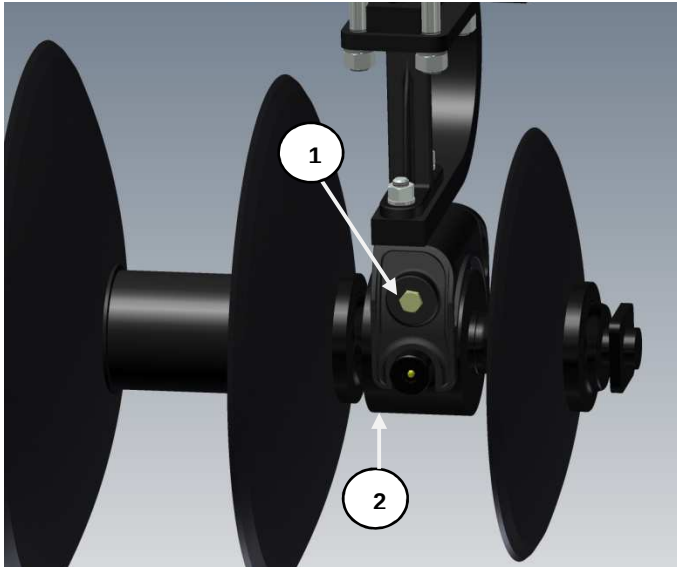

Figure 12
1. If T2-215 bearing must be dismantled, double set screws (Item 2, Figure 12) must be removed from bottom of housing to remove seal cap.
3. When reinstalling bearing hanger on T2-215 bearing (if gangs are dismantled) do not over tighten the 5/8" x 10" bolts (Item 1, Figure 12). Snug / tighten the inner nut against bearing hanger. Tighten outer jam nut against inner nut to secure in position.
NOTE: Bolt (Item 1, Figure 12) is 5/8" x 11" if equipped with wear plates.